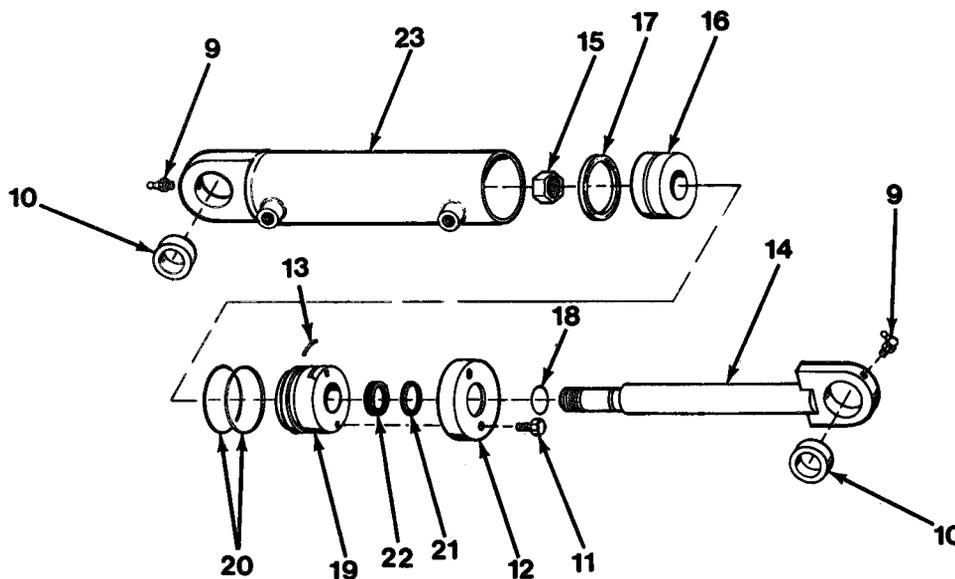

Figure 13-2
- Remove two grease fittings (9, Figure 13-2).
5. Depress sleeve (19) into cylinder barrel assembly (23) past lockwire (13, Figure 13-2).
6. Carefully remove lockwire (13) from groove in cylinder barrel assembly (23).